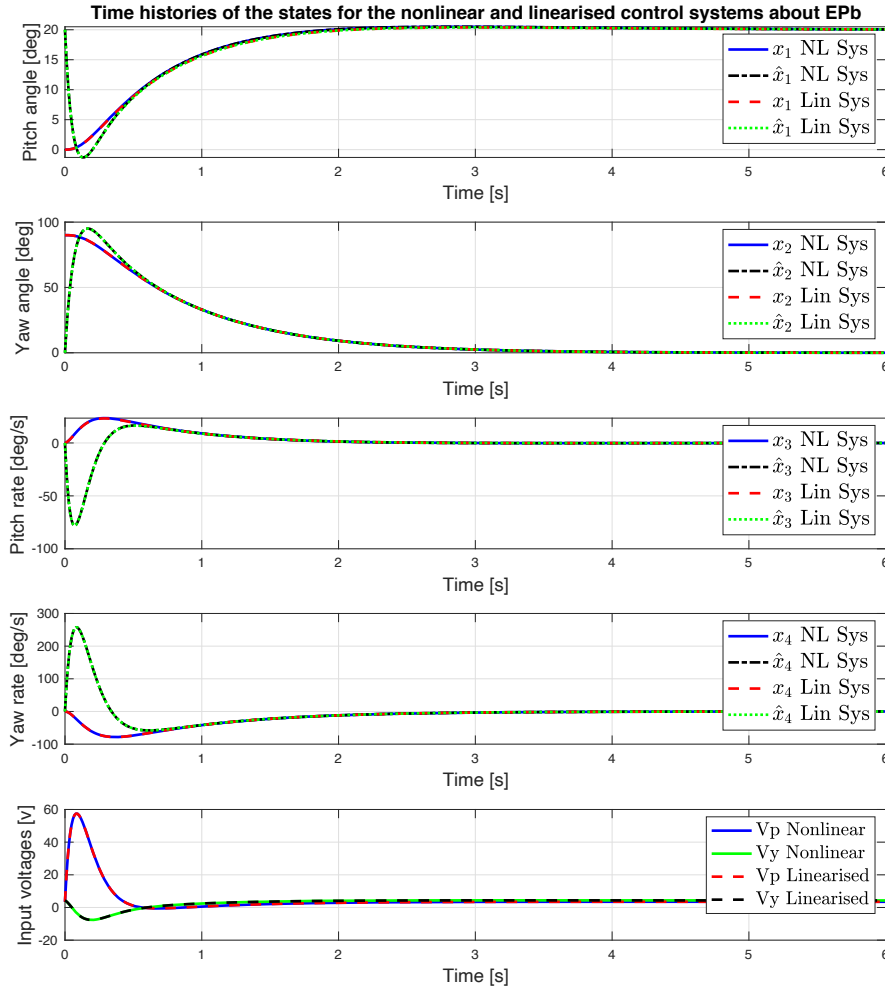

Figure 5: Time histories of the states, their estimations and input voltage.
- Repeat this process for initial conditions about the equilibrium point  $\bar{x}_b$ . Save your script as `aero_mainfile_ofc_comparison.b.m`. Sample results for the initial conditions  $x_1(0) = 0$  deg,  $x_2(0) = 90$  deg,  $x_3(0) = 0$  deg/s and  $x_4(0) = 0$  deg/s are shown in Figure 5, where we selected the following eigenvalues:  $\{-1, -1.1, -1.2, -1.3\}$  for the control design, and  $\{-10, -11, -12, -13\}$  for the observer.